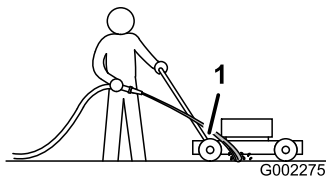

Figure 41
3. Hold the running garden hose at handle level and direct the water to flow on the ground just in front of the **right rear tire** (Figure 41).